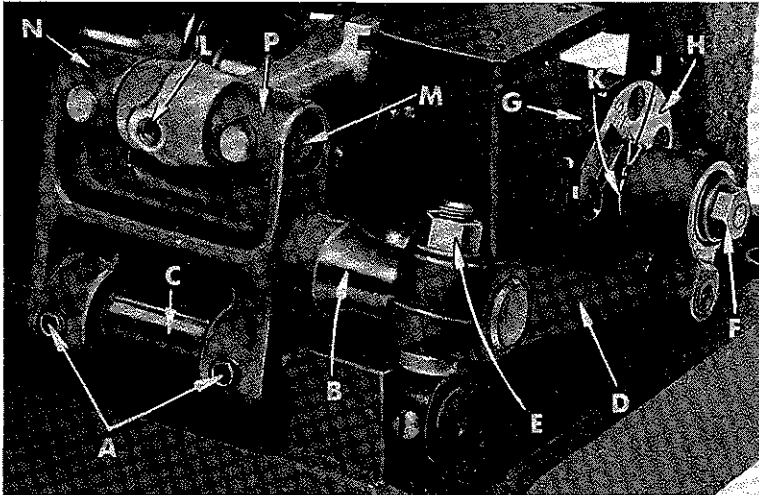

Fig. 10
Should it be necessary to move the feed dog to the left or right, loosen screws (A, Fig. 10) which hold the feed rocker (B) onto the feed rocker shaft (C), and move feed rocker to desired position and retighten screws. Make sure the feed rocker arm (D) does not bind after making this adjustment.
Should it be necessary to move the feed dog forward or backward, loosen nut (E, Fig. 10) which clamps the feed rocker arm to the feed rocker and move the feed rocker forward or backward as needed and retighten nut.
Set the stitch to required length. This is accomplished by loosening the locknut (F, Fig. 10) 1/2 turn (it has a left hand thread) on the end of the stitch regulating stud and turning the stitch adjusting screw (G) located under the left end of the cloth plate, in the head of the main shaft (H), which is marked with "L" and "S". Turning the screw clockwise shortens the stitch (moves stitch regulating stud toward the "S") and turning it in a counterclockwise direction lengthens the stitch (moves stitch regulating stud toward the "L"). Retighten the locknut securely. To prevent destructive damage to the feed drive bearing, the Key screw (J) must engage the "U" shaped key slot in the ferrule (K).
The feed rocker assembly may require lubrication or repair after years of operation. This can be accomplished as follows: Loosen nuts (E, F, Fig. 10) and remove nut (F). Remove feed rocker arm (D) from machine by rocking slightly. Loosen screws (A) and remove stop collar on right end of shaft (C). The shaft can now be withdrawn. Loosen Allen screw (L) and remove shaft (M). Now, repack bearings.
When packing bearings the parts must be clean and grease should be applied directly from the tube to avoid contamination. Tube of grease can be supplied under the part number 28604 P. Greased bearings are located at (N, P, Fig. 10). If grease sealed bearings are replaced they should be pressed in flush with the casting. To assemble, reverse the procedure described in the previous paragraph. Start tapered end of shafts first, twisting slightly when entering the grease seals to prevent damage. Check for proper adjustment of feed dog as described under "Setting the Feed Dog". Also check to see that there is no binding at any point.